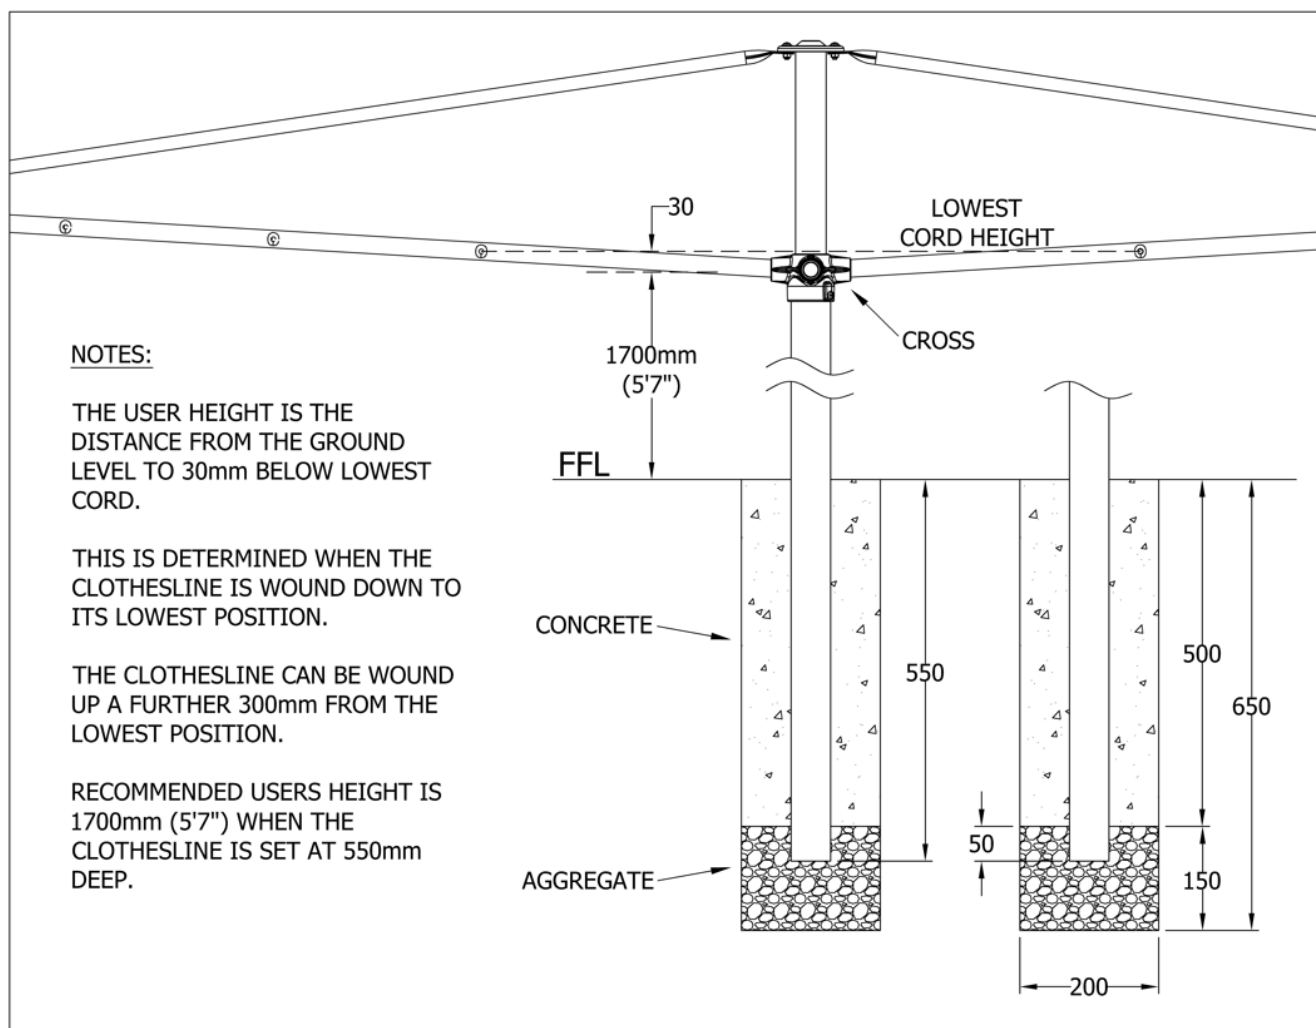

Fig 1. Deluxe installation into ground.
1. Dig a 200 x 200mm hole 650mm deep. (Fig 1).
2. Fill the bottom 100mm with drainage aggregate. (Fig 1).
3. Sit the column on top of the aggregate and add an additional 50mm of aggregate up the sides. (Fig 1).
- The lowest wire height (innermost wire) will be 30mm above the end users head height. (Fig. 1).